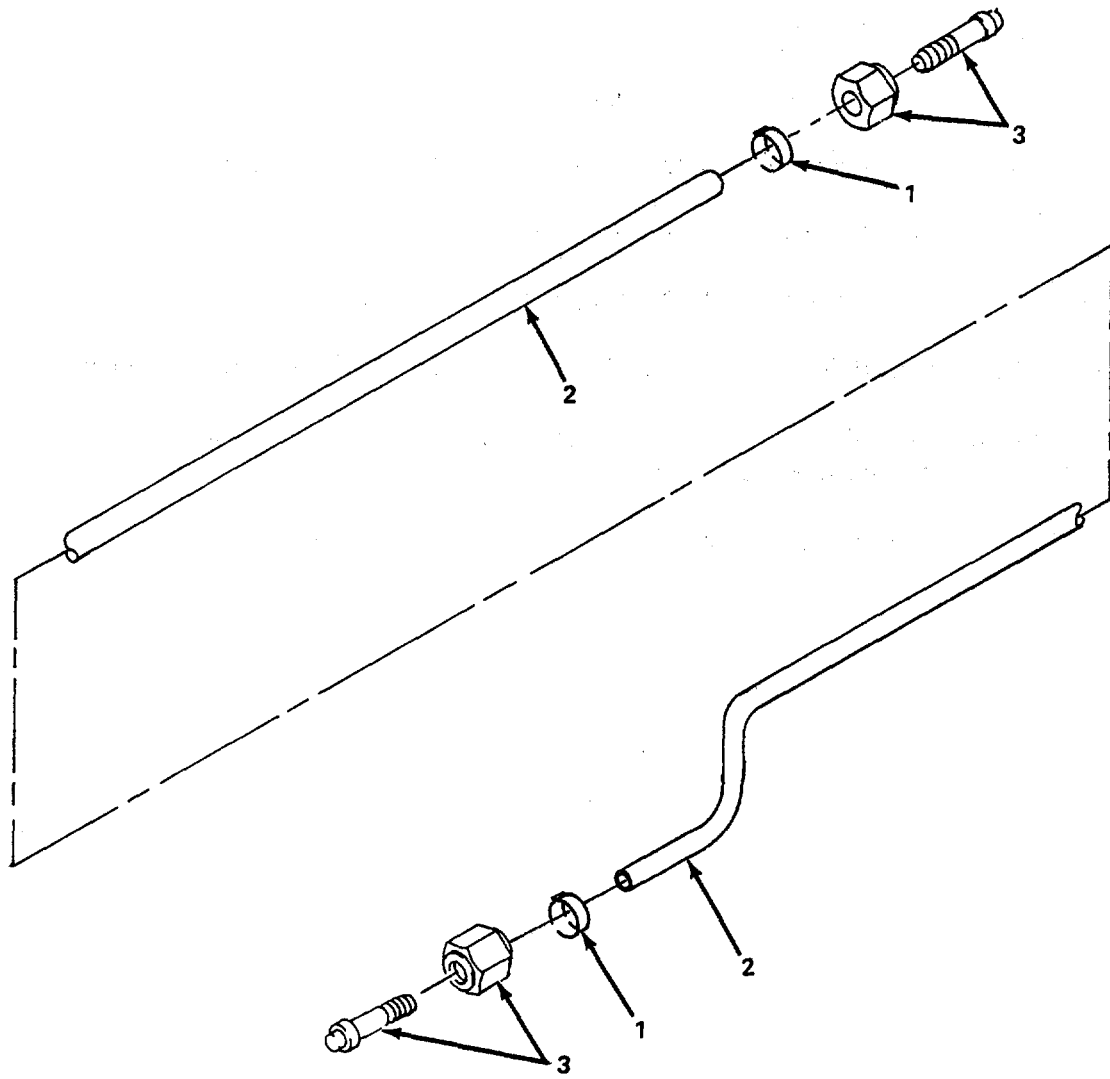

Figure 6-2. Pneumofathometer Hose, Fabrication.
(2) *Pneumofathometer hose.* (figure 6-2)